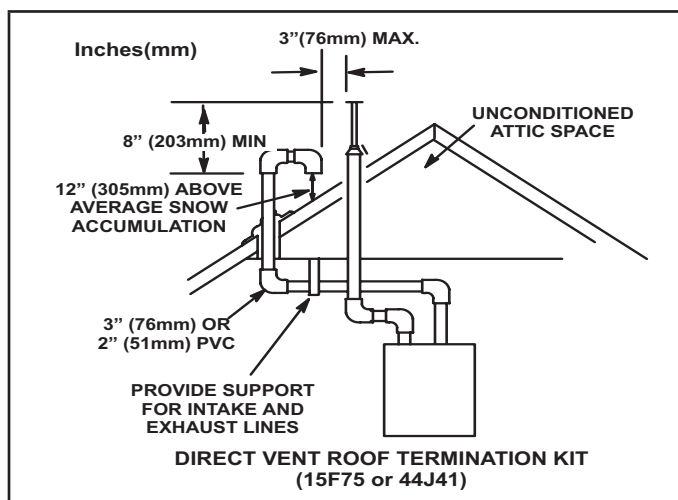

FIGURE 26
Intake and exhaust pipes may be routed either horizontally through an outside wall or vertically through the roof. In attic or closet installations, vertical termination through the roof is preferred. FIGURE 26 through FIGURE 34 shows typical terminations.
- 3 - On roof terminations, the intake piping should terminate straight down using two 90° elbows (See FIGURE 26).